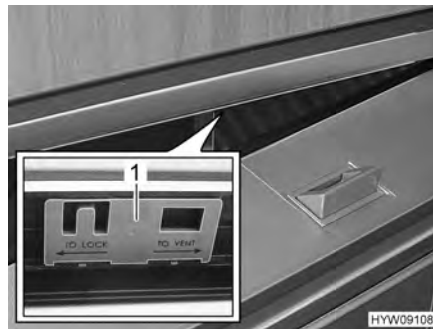

Fig. 93 Refrigerator door (ventilation position)
- Push slider (Fig. 93,1) towards the right.